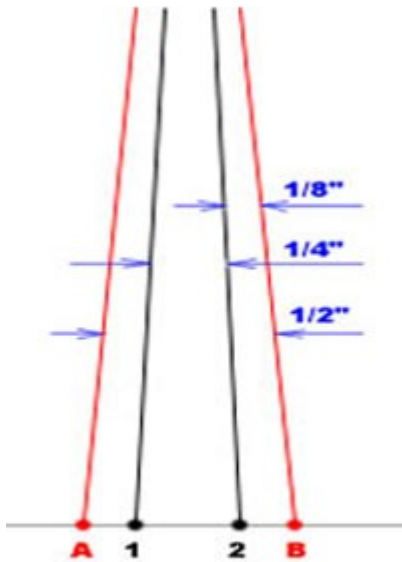

Fig:3
2. Now draw two more lines (line A & B), as shown in the figure 3, which is 1/8" outside the line 1&2. These lines A&B, used as the guidance for the magnetic strips.